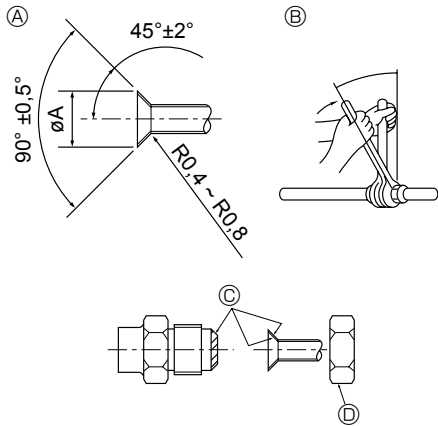

Fig. 4-1
4.1. Rohranschlüsse (Fig. 4-1)